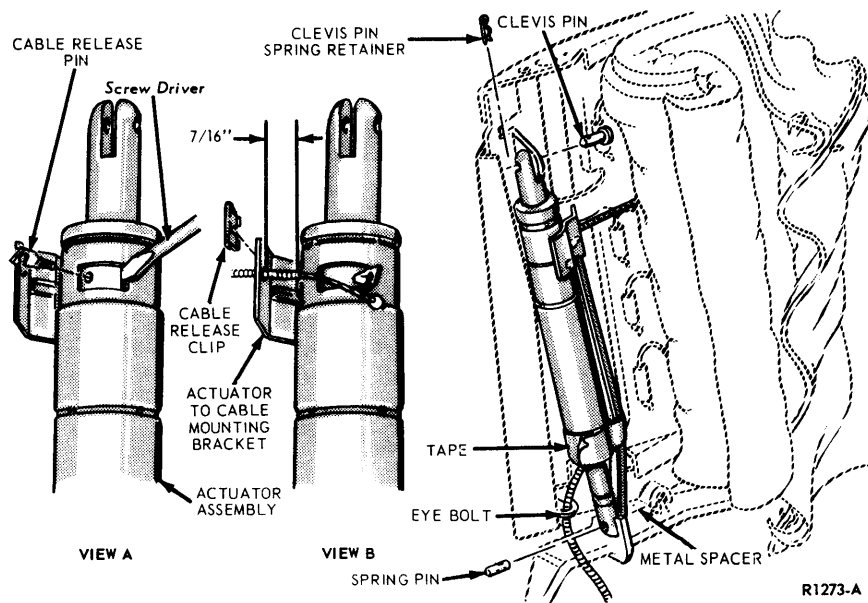

FIG. 5—Seat Actuator and Control Cable Assembly
14. Remove the actuator-to-cable release clip (Fig. 5).
15. Open the split end of the cable release pin and remove the cable (Fig. 5).
pin in the open position by inserting the blade of a screwdriver (Fig. 5, View A) in the exposed slot to the right of the pin.
3. Install the cable release clip (Fig. 5).